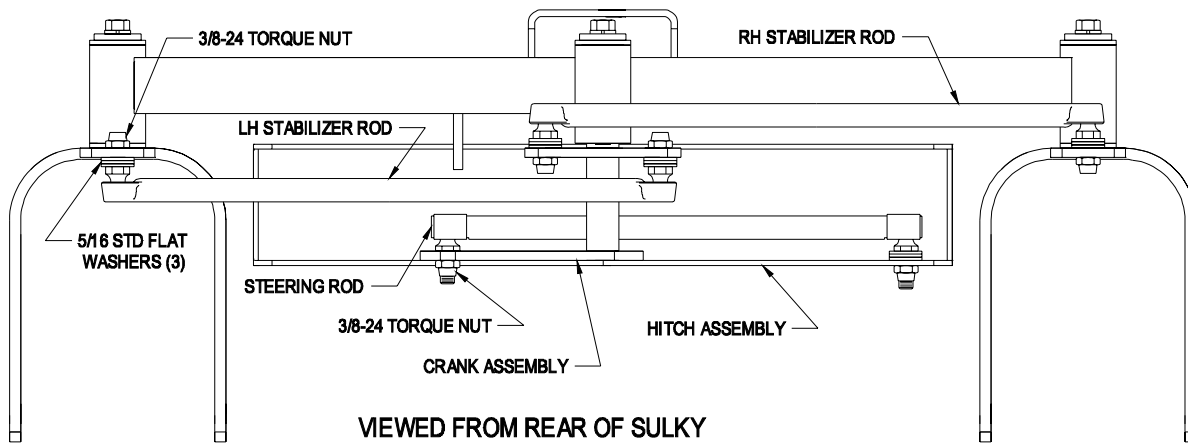

Figure 3
5. Install steering stabilizing rods. Place three (3) 5/16" standard flatwashers onto each ball stud at the ends of the stabilizing rods. Insert one end of the LH stabilizing rod up through the bottom side of the LH wheel steering arm and insert the other end through the bottom side of the right hole in the crank assembly, then fasten with two (2) 3/8" torque nuts. Insert one end of the RH stabilizing down through the top side of the RH wheel steering arm and insert the other end in the left hole in the crank assembly, then fasten with two (2) 3/8" torque nuts. See Figure 3.
6. Install the steering rod. Place three 3/8" standard flat washers onto the ball stud at one end of the steering rod. Insert the stud through the top side of the hole located on the hitch assembly RH lower section. Fasten with one 3/8" torque nut. Secure opposite end to the hole in the lower arm of the crank assembly. Fasten with one 3/8" torque nut. See Figure 3.